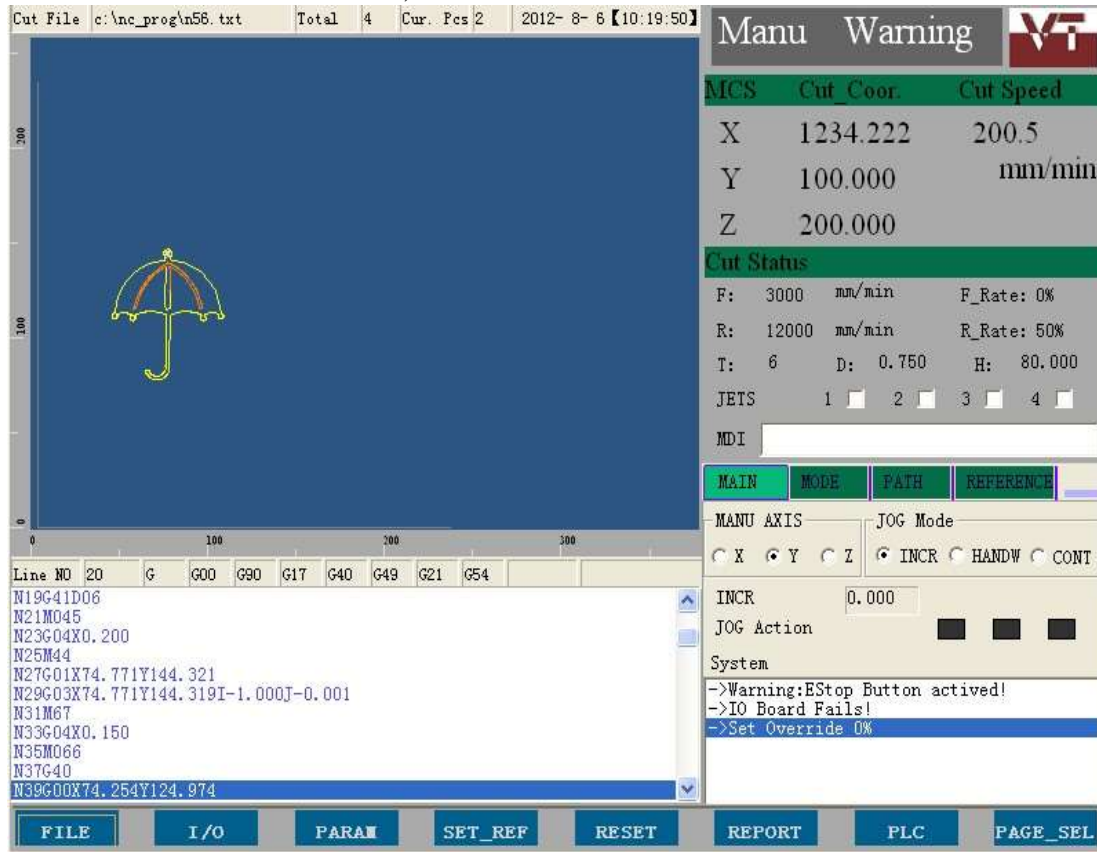

FIGURE 1
- The operators interface screen shown in FIGURE 1 is configured for waterjet, is easy to use and displays pertinent information clearly. The system display is available in English and other languages. Manual programming of simple objects can be accomplished thru the edit and MDI functions of the control system. Cutting programs developed with a remote computer can be loaded either by one of two USB ports or the control can be linked into the companies LAN and programs transmitted via a RS232/432 connection on the CPU.